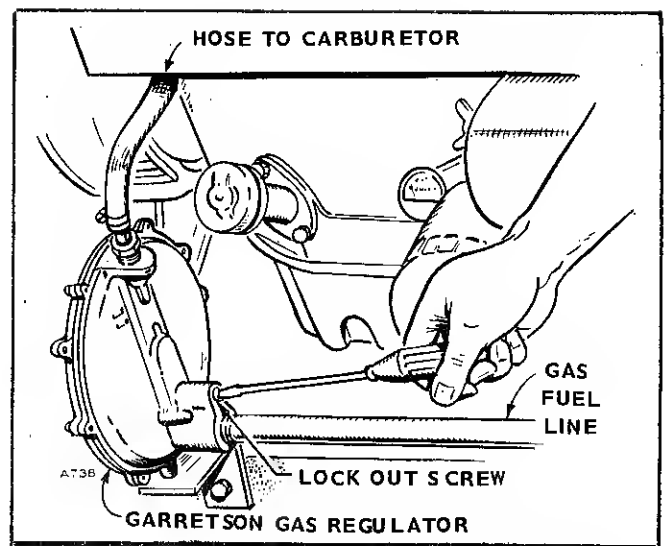

FIGURE 22. GARRETSON GAS REGULATOR
**Gas Regulator (Garretson):** The maximum allowable inlet pressure is 8 oz; minimum, 2 oz. If gas line pressure is greater than 8 oz., install a primary regulator to reduce the pressure. The regulator has an adjustment to control the maximum pressure at which the regulator shuts off when there is no demand. To obtain maximum regulator sensitivity, adjust it to just shut off at your line pressure when there is no demand. Adjust the regulator for shut off when there is no demand, to prevent gas leaks. The factory adjusted shut-off between 2 and 4 oz. If gas line pressure is between 4 and 8 oz., readjust the screw (Fig. 22).